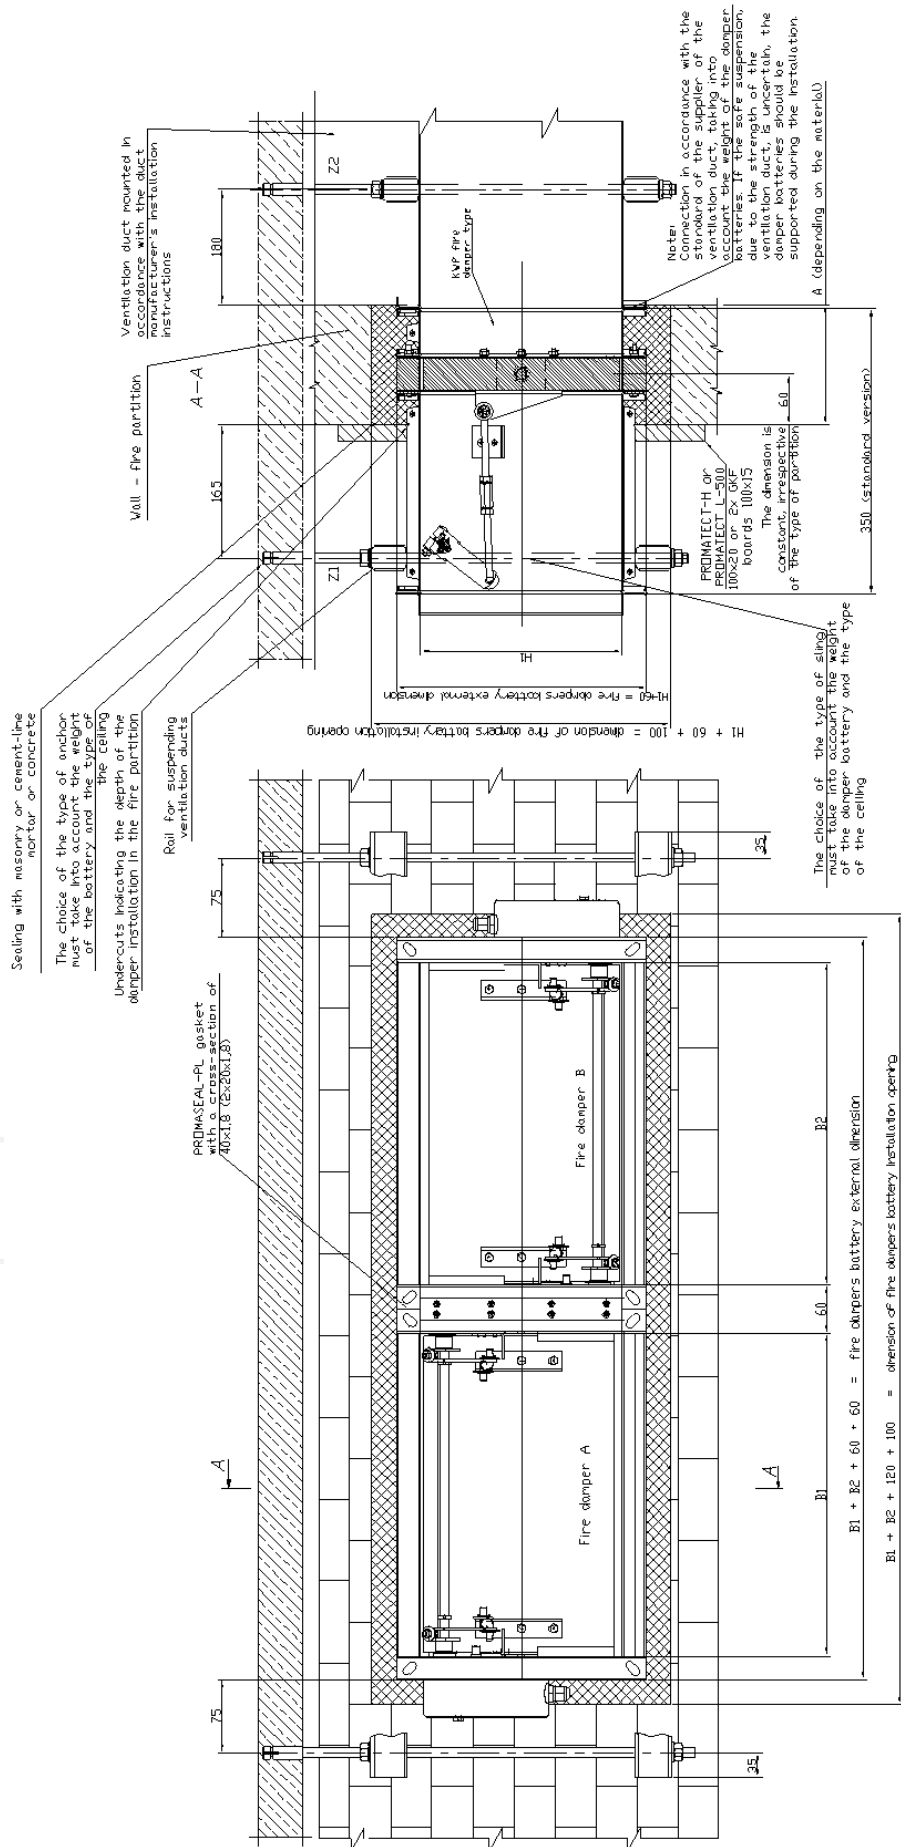

Figure 18. Installation of battery consisting of two smoke control dampers KWP-P in horizontal arrangement in wall
- For battery consisting of four KWP-P fire: (B1+B2+180)x(H1+H2+180) (Figure 18),